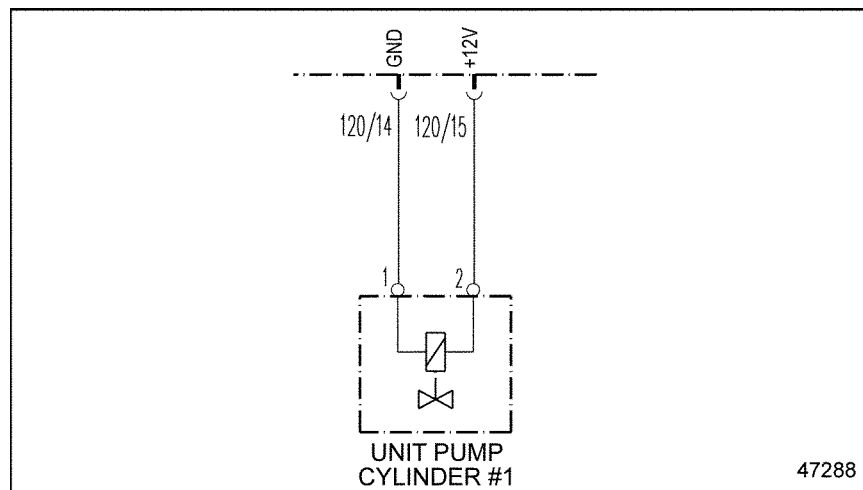

Figure 45-2 Electronic Unit Pump #1
4. Measure the resistance between pins 1 and 2 of the Electronic Unit Pump #1 harness. See Figure 45-2.